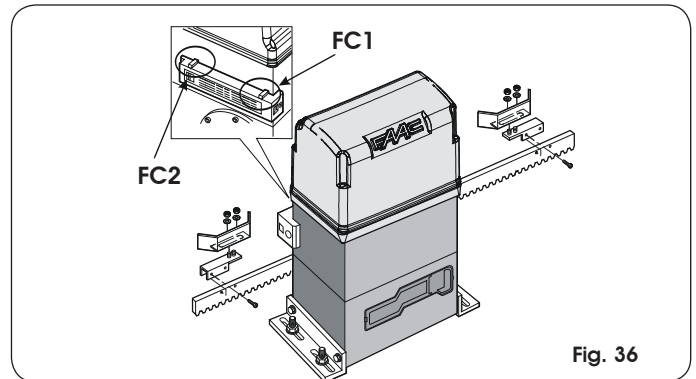

Fig. 36
1. Assemble the limit-switch by centering the plate with respect to the threaded pins of the support (Fig. 36).